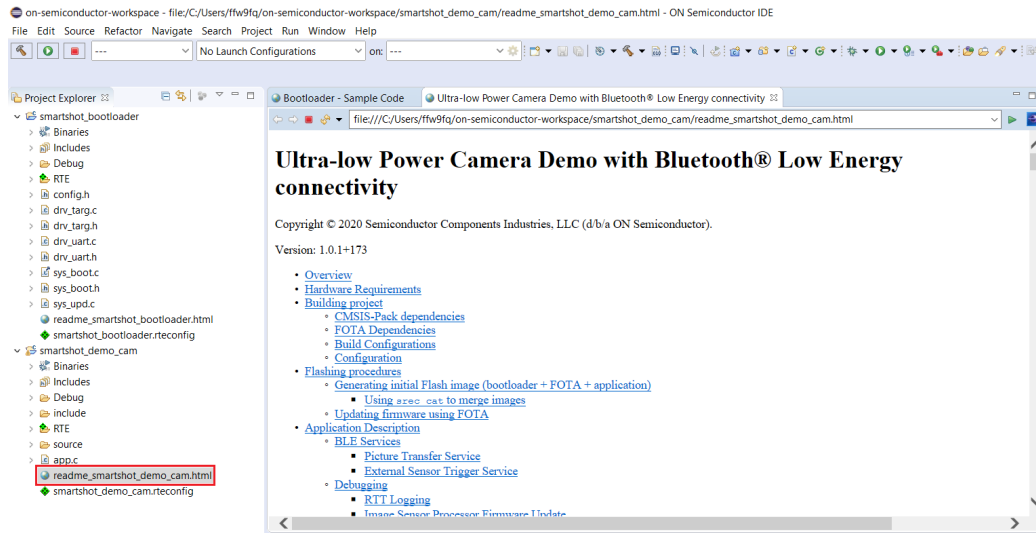

Figure 15. SmartShot Source Code and Documentation Inside CMSIS
1. *SmartShot application software*: it provides the source code and documentation for actual Smartshot application running on RSL10 (Figure 15)